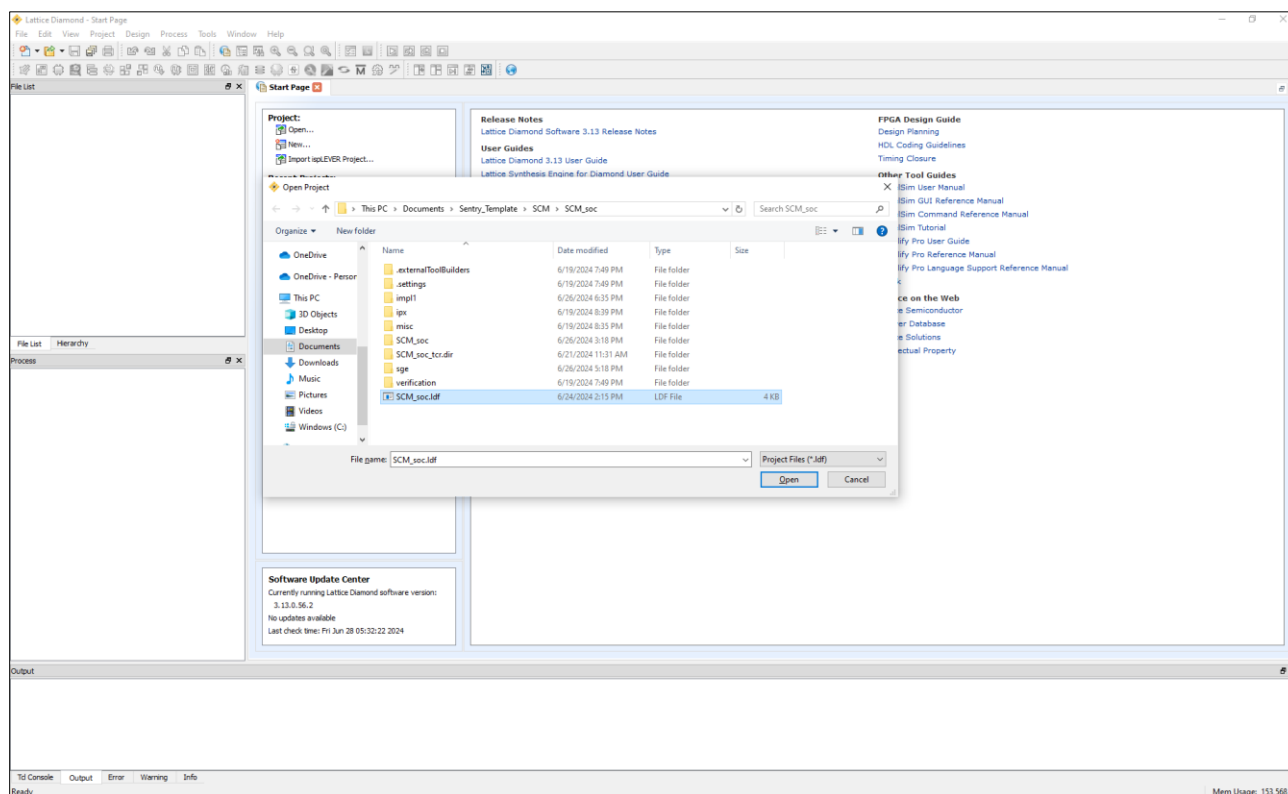

Figure 5.4. Open SCM_soc in Lattice Diamond Software
1. Open SCM_soc in Lattice Diamond Software, as shown in Figure 5.4.